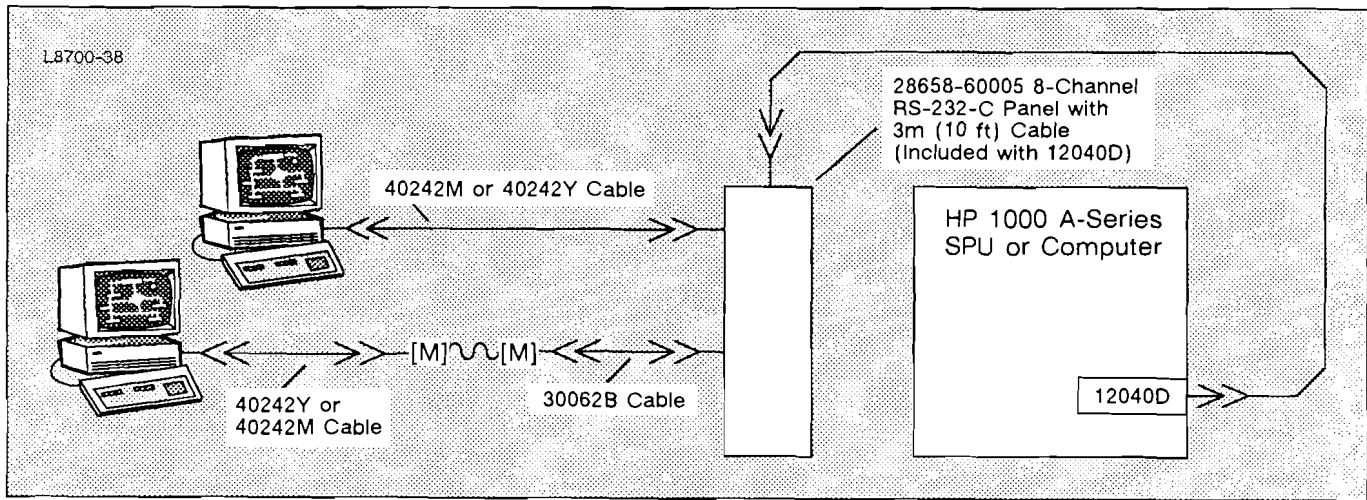

Figure 32. Console/Terminal Connection via 12040D 8-Channel Multiplexer
3. The 12040D 8-Channel Multiplexer is the best choice in A600+, A700, and A900 systems for connection of more than two terminals and other multiplexer-connectable devices. Channel 0 of the multiplexer can be used to connect the system console (or any other device). The remaining channels can be used for other terminals and other multiplexer-connectable devices. Devices connect to an eight-connector panel via separately-ordered cables. See Figure 32, next page.